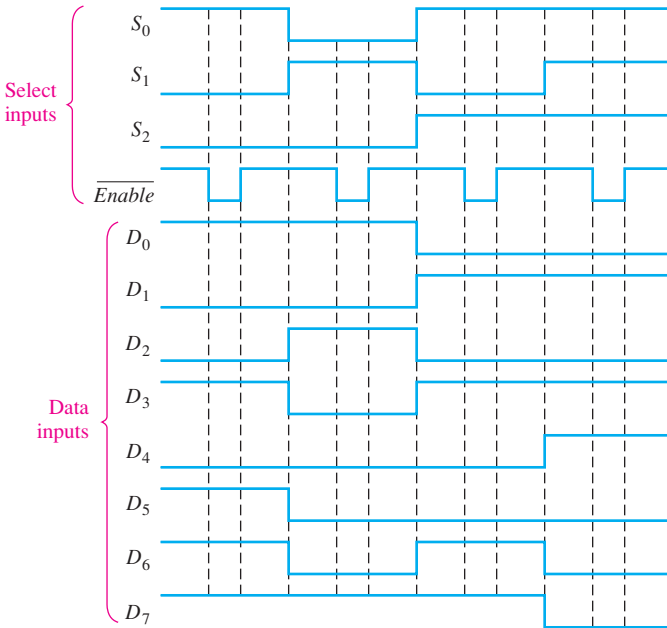

FIGURE 6-81
30. The waveforms in Figure 6-81 are observed on the inputs of a 74HC151 8-input multiplexer. Sketch the Y output waveform.